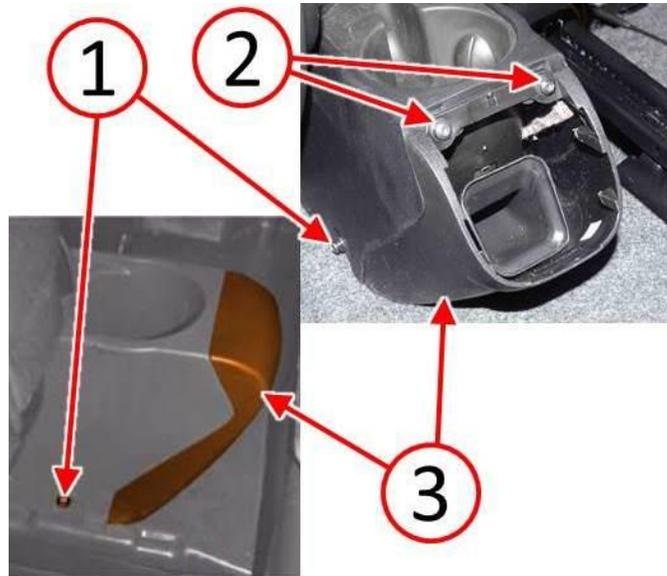

Fig. 11 Install Floor Console End Cap
31. Vehicle may be equipped with or without an air outlet in the floor console as shown in (Fig. 11). Perform the following applicable steps depending on how vehicle is equipped:
- Without air outlet:** Install the end cap (3), then install the two lower screws (1) to the right and left side of the floor console (Fig. 11).
- With air outlet:** Install the end cap (3), then install the two upper screws (2) and the two lower screws (1) to the right and left side of the floor console (Fig. 11).